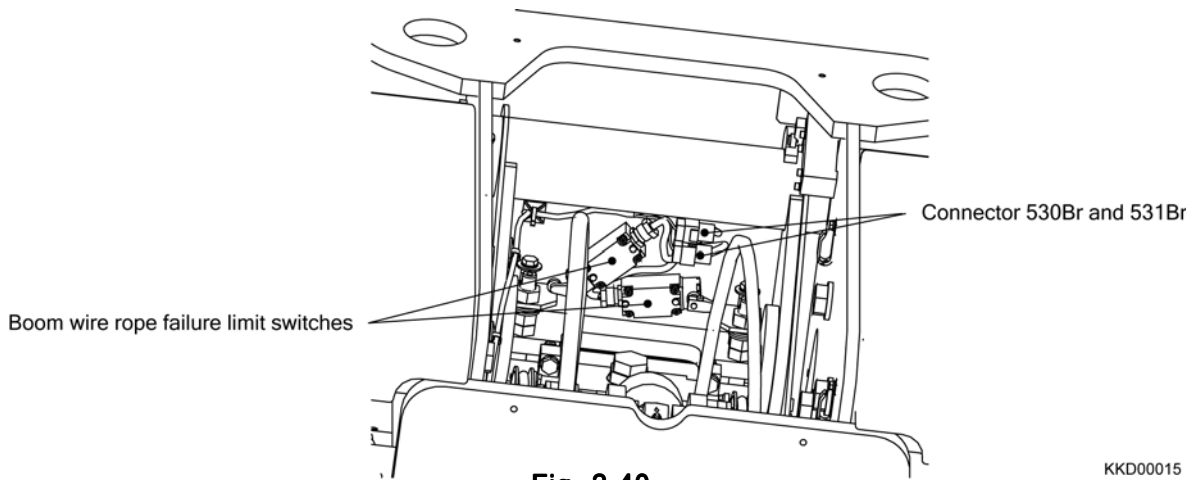

Fig. 2-40
- 19) Disconnect the cable for the boom wire rope failure limit switches (Connector 530Br, 531Br) and then cut cable ties fixing the cables (Fig. 2-40) [CE model only]